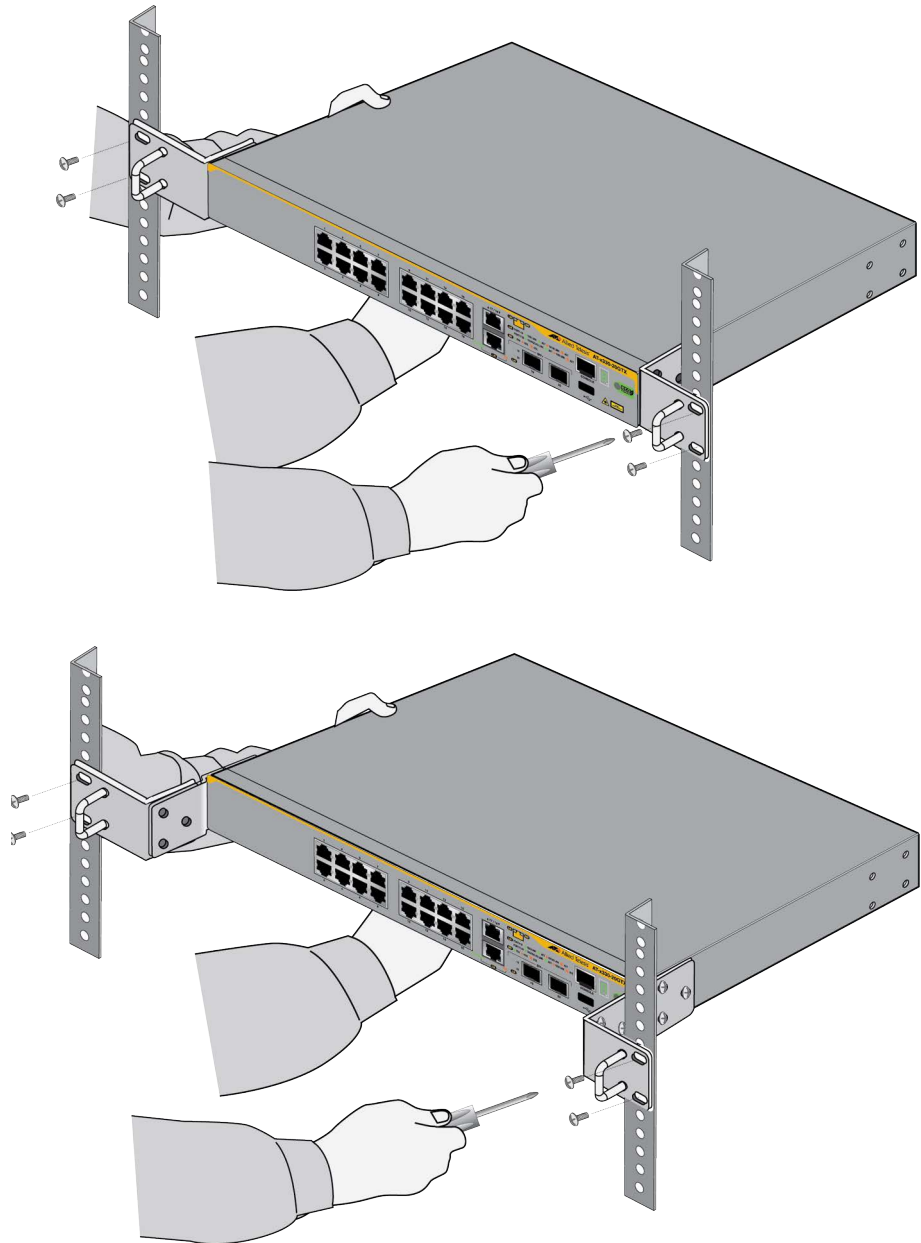

Figure 39. Securing the x330-20GTX Switch in a Standard 19-inch Equipment Rack
6. Have another person hold the switch at the selected location in the equipment rack while you secure it using four standard equipment rack screws (not provided). Refer to Figure 39.